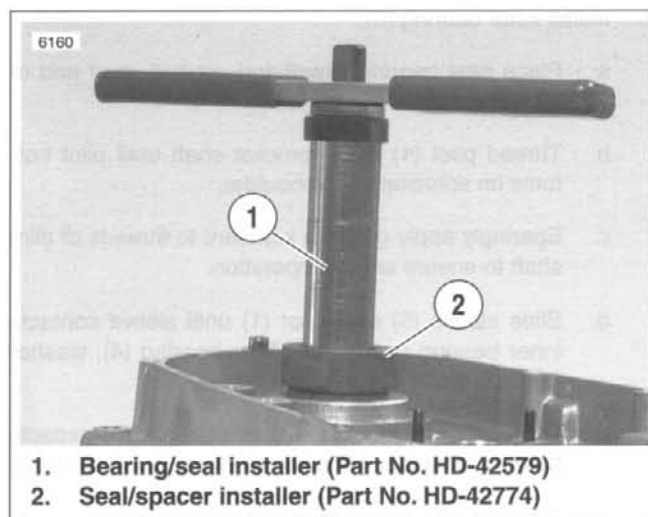

Figure 3-145. Install Bearing Seal/Spacer
11. See Figure 3-145. Install bearing seal and spacer.
- a. Center seal/spacer driver (2) over seal, so that the sleeve (smaller OD) seats between seal wall and garter spring.
- b. Assemble SPROCKET SHAFT BEARING/SEAL INSTALLATION TOOL (1) (Part No. HD-42579) and SPROCKET SHAFT SEAL/SPACER INSTALLER (Part No. HD-42774) onto sprocket shaft. Follow procedure in Step 8.